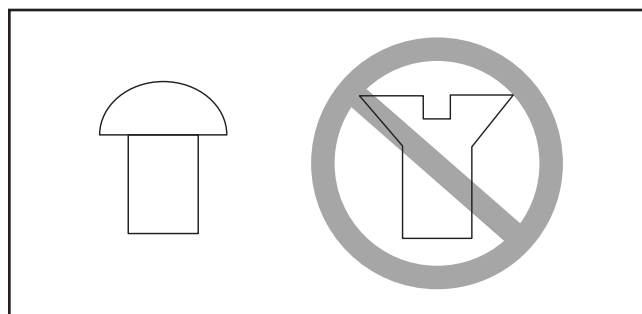

Figure 35. Correct and incorrect screw types for mounting faceplate to workpiece.
Only use tap screws or wood screws with non-tapered heads (Figure 35) to attach the faceplate to the workpiece. Do NOT use dry-wall screws or screws with tapered heads, because they can split the faceplate or snap off during operation.
2. Center the faceplate on the workpiece and attach it with wood screws that do not have tapered heads (see **Figure 35**).